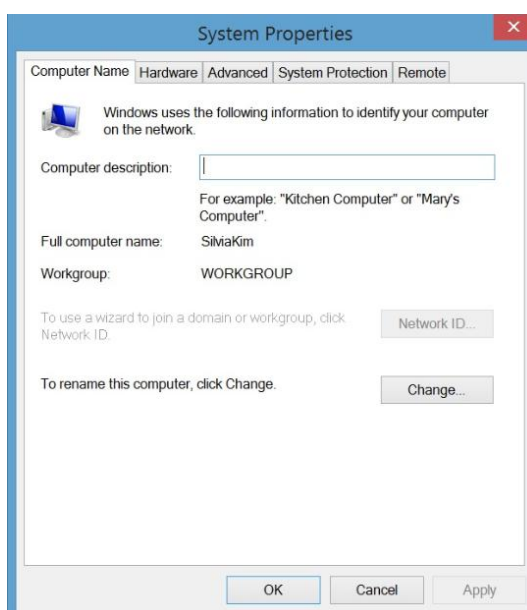

Fig. 3.10 Change host name
Step 1: Press Start menu, select Computer and right click Properties, click Change Settings at the right of Computer Name, Domain and Working Group and again click the Computer Name column to change. As shown in Fig. 3.10.